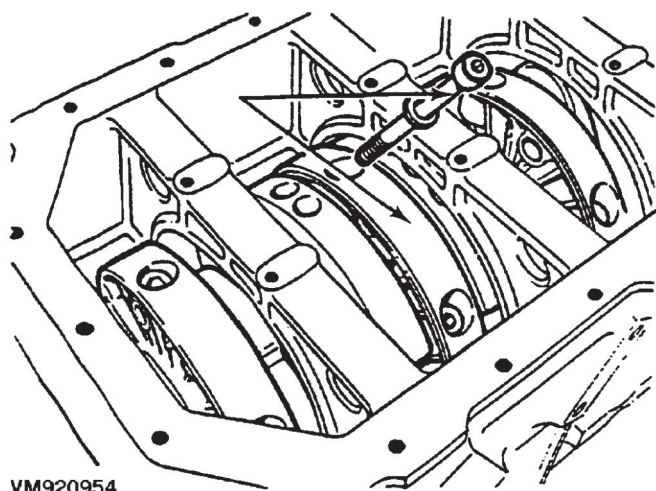

Fig. 54 Carrier Bolts
- (22) Slide crankshaft and bearing carriers rearward to rear of block. If you encounter difficulty in removing the complete assembly as previously described, slide the assembly rearward sufficiently to gain access to the main bearing carrier bolts. Mark the carriers for assembly and remove the bolts, two for each carrier (Fig. 54).